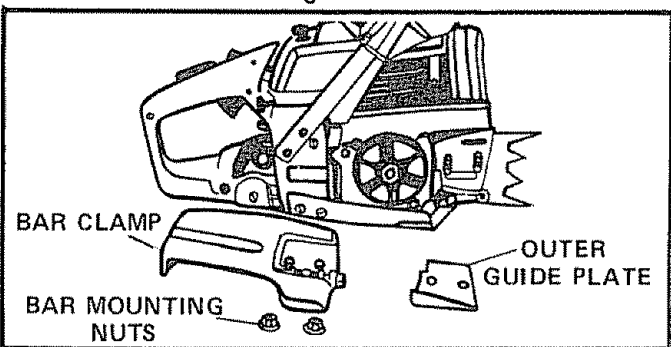

Figure 51
2. Remove the bar clamp, outer guide plate, guide bar, and chain. Figure 51.